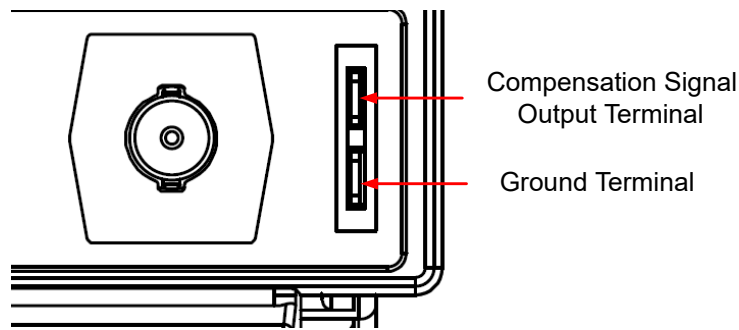

Figure 5.5 Use the Compensation Signal
2. Connect the ground alligator clip of the probe to the "Ground Terminal" as shown in *Figure 5.5* below.
3. Use the probe to connect the input terminal of CH1 of the oscilloscope and "Compensation Signal Output Terminal" shown in *Figure 5.5*.